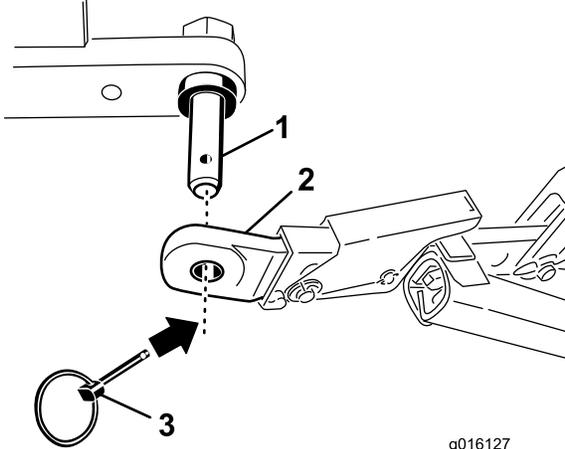

Figure 3
- Secure the lower link arms to the aerator mounting pins with lynch pins (Figure 3).